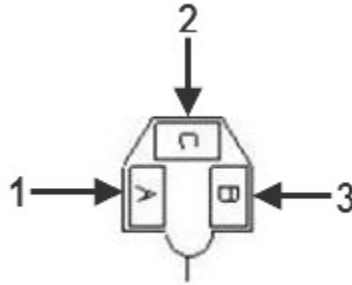

Figure 2 Headlight Connector (Viewed from Harness Insertion End)
6. Verify circuit U11-GH WH is inserted into cavity A and circuit U52-D YL is inserted into cavity B. If the circuits are found to be in these cavities, proceed to step 7. If the circuits are reversed, remove the terminals from cavities A and B of the electrical connector and switch their positions upon reinstallation to the connector so U11-GH WH is inserted into cavity A and circuit U52-D YL is inserted into cavity B. See Figure 2 and Table 1.
11. Verify circuit U11-GH WH is inserted into cavity A and circuit U52-D YL is inserted into cavity B. If the circuits are found to be in these cavities, proceed to step 12. If the circuits are reversed, remove the terminals from cavities A and B of the electrical connector and switch their positions upon reinstallation to the connector so U11-GH WH is inserted into cavity A and circuit U52-D YL is inserted into cavity B. See Figure 2 and Table 1.